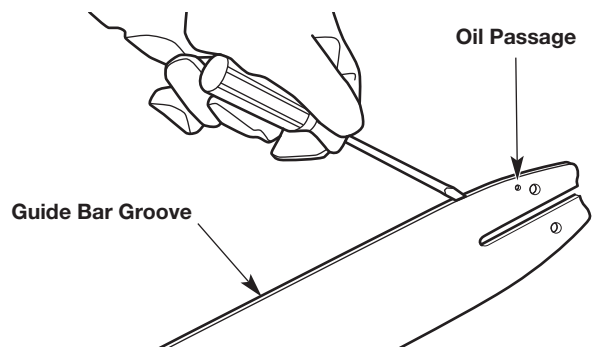
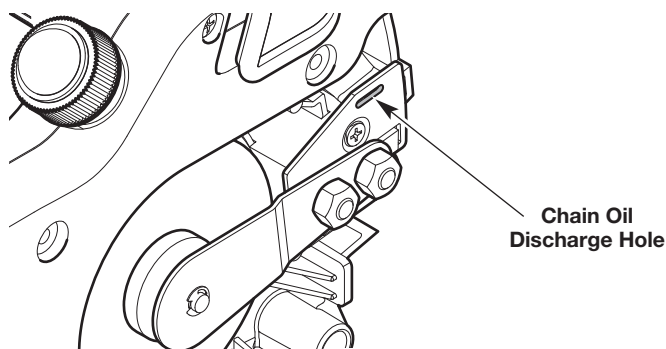

Fig. 44
Fig. 45
- Clean the guide bar groove and oil passages whenever the saw chain is removed, when the unit has been used heavily or when the saw chain appears dirty. Use a screwdriver, putty knife, wire brush or similar instrument to remove debris from the guide bar groove (Fig. 44). Use a small, soft wire to remove any debris from the chain oil discharge hole (Fig. 45).